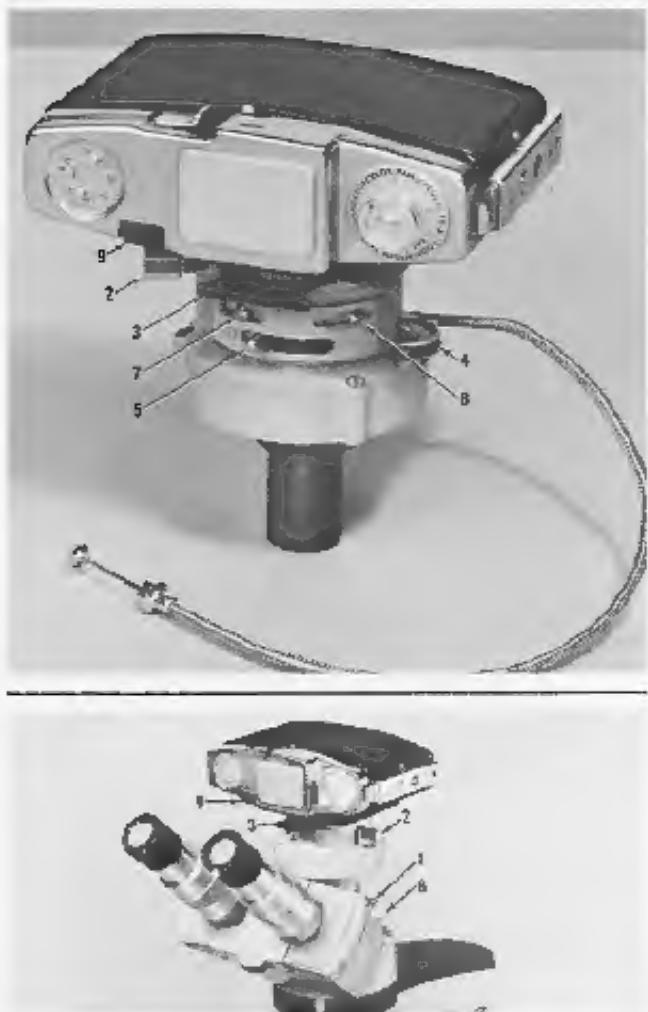

Figure 2. Microscope and Camera Setup
- b. Insert Lens and Shutter Assembly with the focusing lever toward the operator, and secure with knurled thumbscrew (1, figure 2).
- c. Place 35 mm camera back (with or without 5X Adapter) on Lens and Shutter Assembly with the controls facing the operator, and secure with knurled thumbscrew (2). If 5X Adapter is used, 2-position lever (5) is to be in 5X position. If adapter is not used, lever (5) is to be in 2.8X position. Select microscope objective to be used.